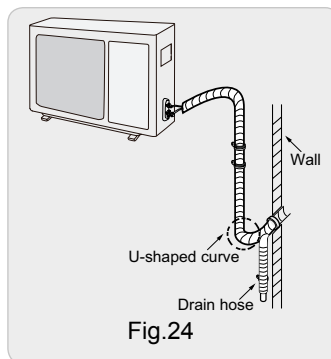

Fig.24
(1) The pipes should be placed along the wall, bent reasonably and hidden possibly. Min. semidiameter of bending the pipe is 10cm.
(2) If the outdoor unit is higher than the wall hole, you must set a U-shaped curve in the pipe before pipe goes into the room, in order to prevent rain from getting into the room. (As show in Fig.24)